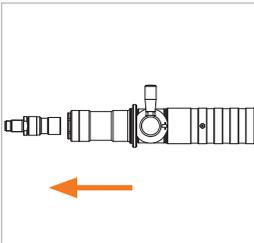

Figure 3
- ▶ Push the fueling nozzle onto the receptacle on the vehicle until it stops and hold the nozzle in this position (OFF position) (Figure 3).